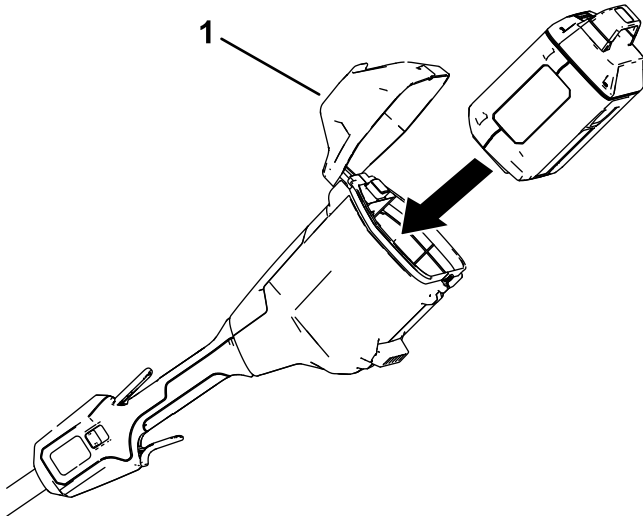

Figure 11
2. Open the battery lid (Figure 11).
3. Align the cavity in the battery pack with the tongue in the battery compartment (Figure 11).
4. Push the battery pack into the battery compartment until the battery locks into the latch (Figure 11).